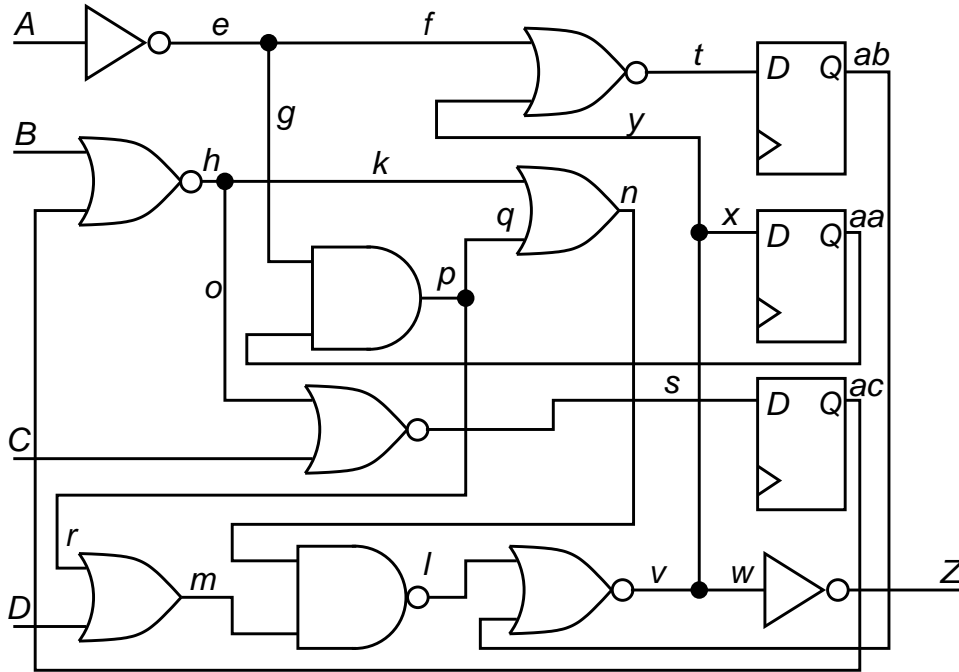

Figure 2: Circuit for Problems 8.22, 8.23, and 8.26 [1].
- 8.22 *Sequential ATPG.* Using *drivability measures* and *reverse time processing*, generate a test for the fault ac sa0 in the circuit of Figure 2.
- 8.23 *CONTEST.* Generate a test for the faults s sa0, t sa0, and v sa1 in the circuit in Figure 2 using the CONTEST algorithm. Use this random vector initialization sequence:
8.26 *Sequential ATPG.* Derive a test for the fault t sa0 in the circuit of Figure 2 using a sequential version of PODEM. Start at the time frame after the time frame of fault activation (frame 0), and propagate the fault to a PO in that time frame. Then, visit the immediately previous